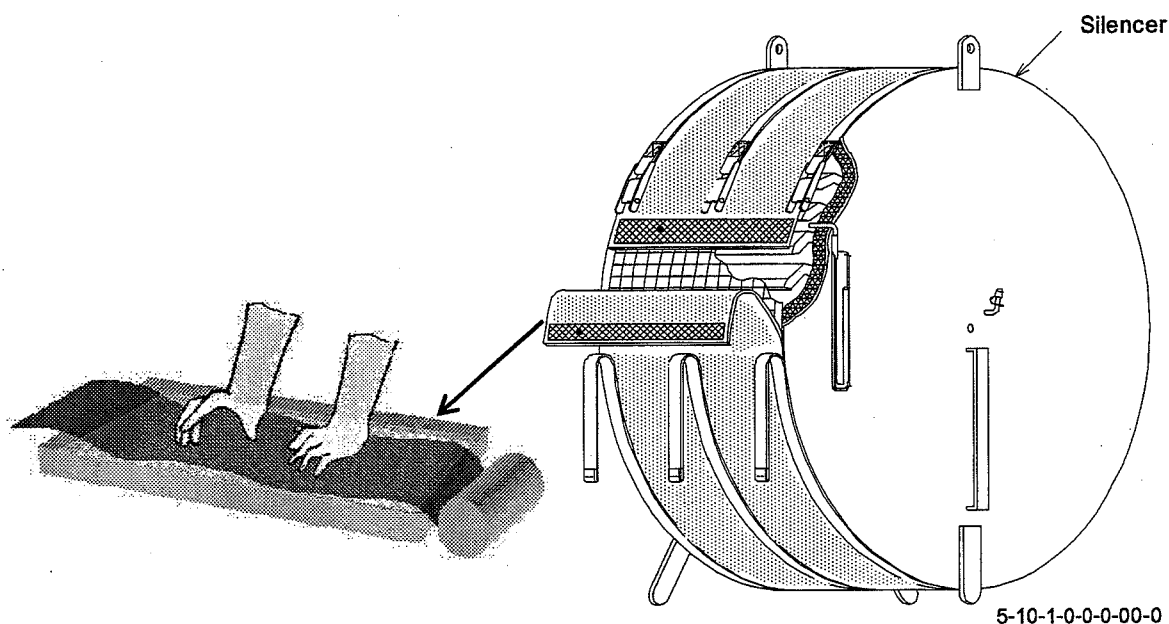

Fig. 5-10 Procedure for washing silencer filter
7.2 Cleaning method (see Fig. 5-10)